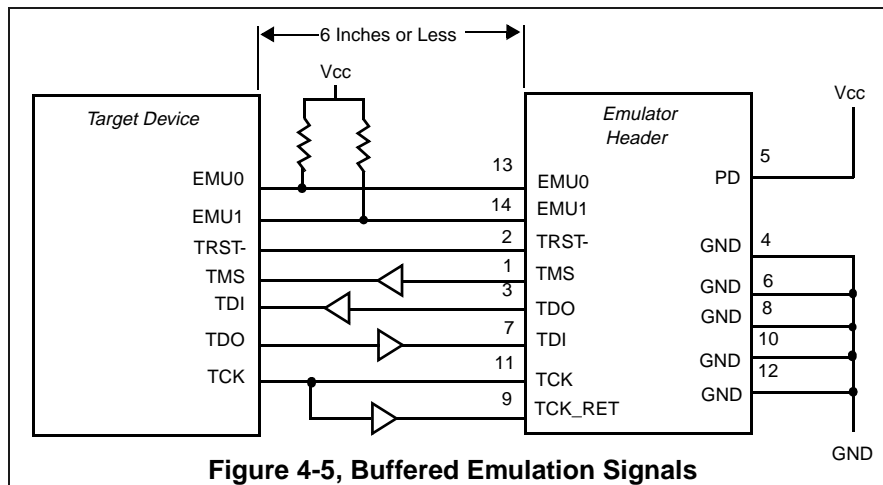

Figure 4-5, Buffered Emulation Signals
- **Buffered emulation signals.** Figure 4-5 shows the distance between the emulation header and the target device is greater than 6 inches. The target device signals--TMS, TDI, TDO, and TCK\_RET are buffered through the same package.